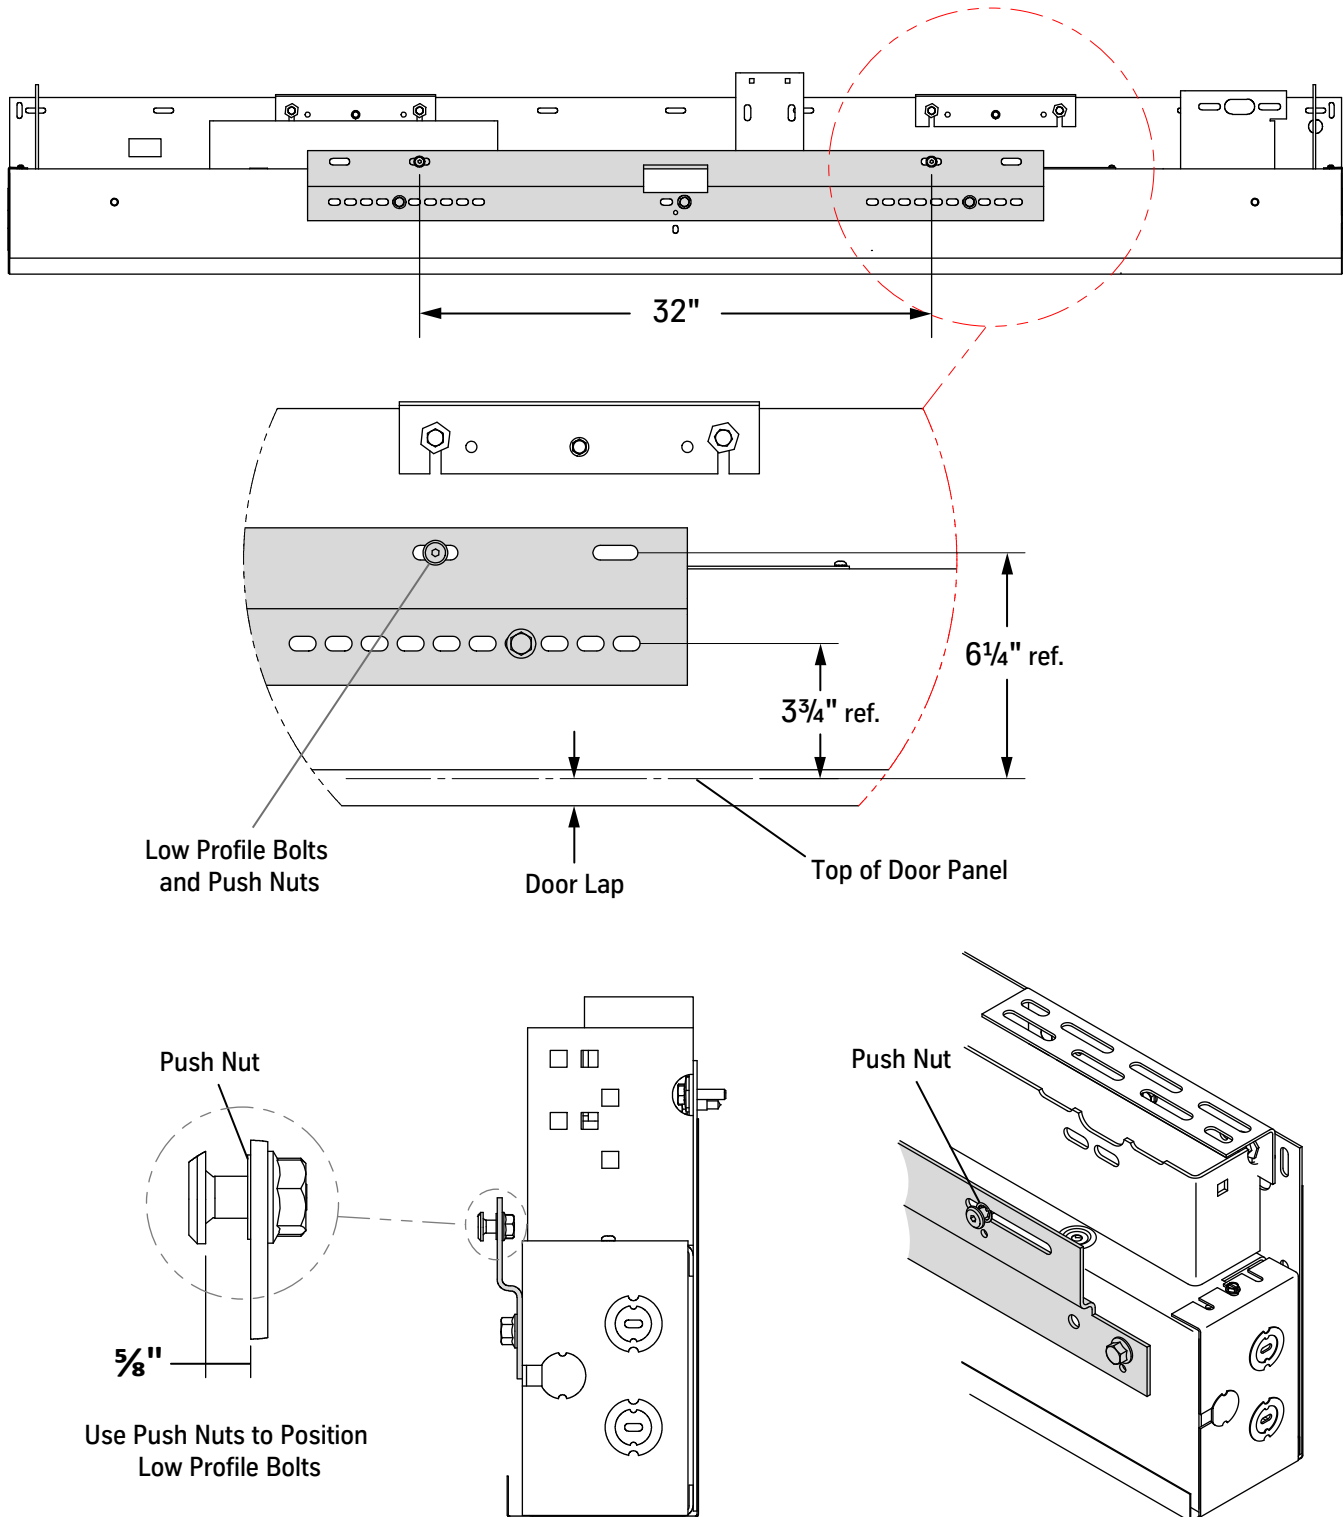

Figure 20 - Adapter Angles Installation Detail
7. Use included hardware to attach the adapter angle to the header, but do not tighten; leave hardware loose to allow adapter alignment with track keyslots. See Figure 20.